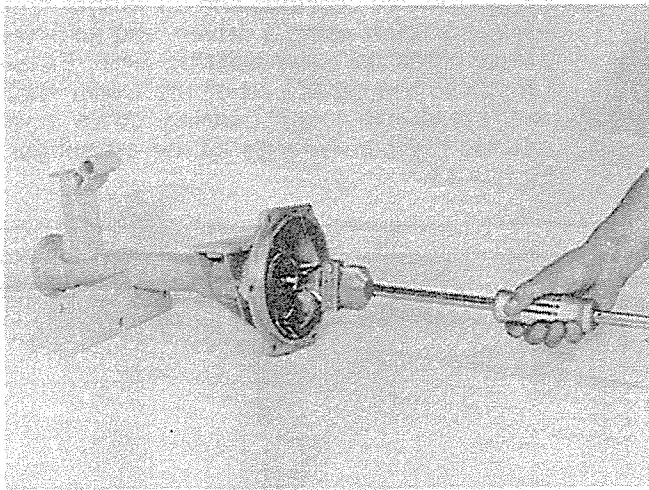
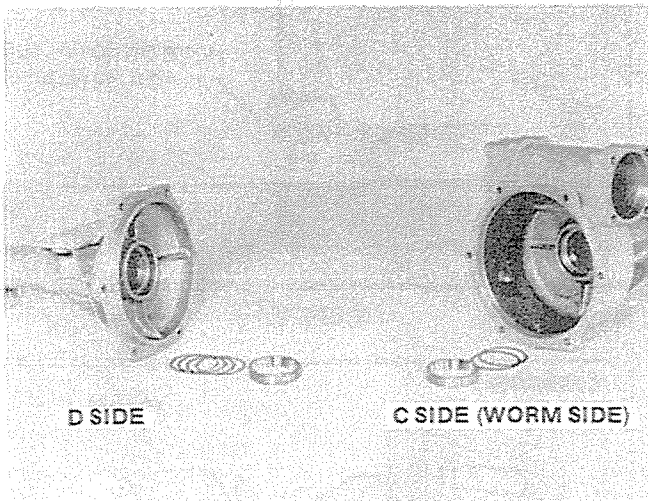

Figure 8
Figure 9
1. If the dimension A to B is less on the new carrier, shims equal to the difference should be removed from the D side housing and added to the C side. Figure 9.
If shim adjustment is necessary, remove bearing cup and shims from the axle housing using a bearing cup puller. Figure 8. Lay on table as shown in Figure 9, so that they will not be mixed, noting which is the C side and which is the D side.